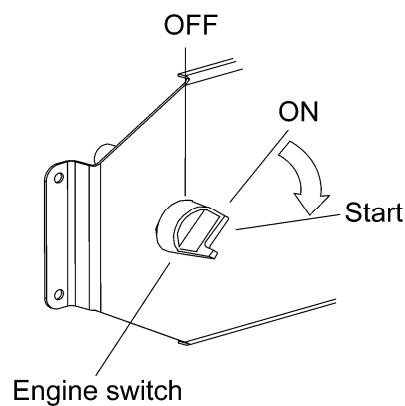

Figure 12 Engine switch
2. Turn the engine switch to “START” position until the engine is started. (See figure 12).